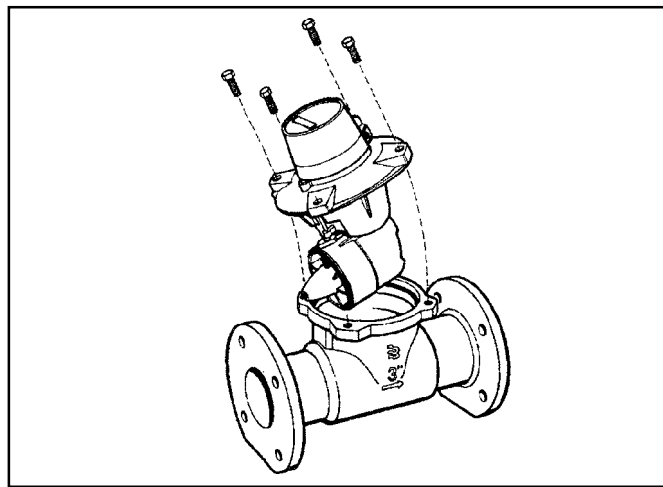

Figure 3. Measuring Element Assembly Removal
- D. When pressure is relieved, remove the head bolts completely. Then lift the measuring element assembly from the housing, at the same time tilting it forward allowing the nose cone to come clear of the housing (see Figure 3.) Remove the O-ring or housing gasket. Attempting to lift the element straight up, or tilting it backwards before it clears the housing may damage the element.